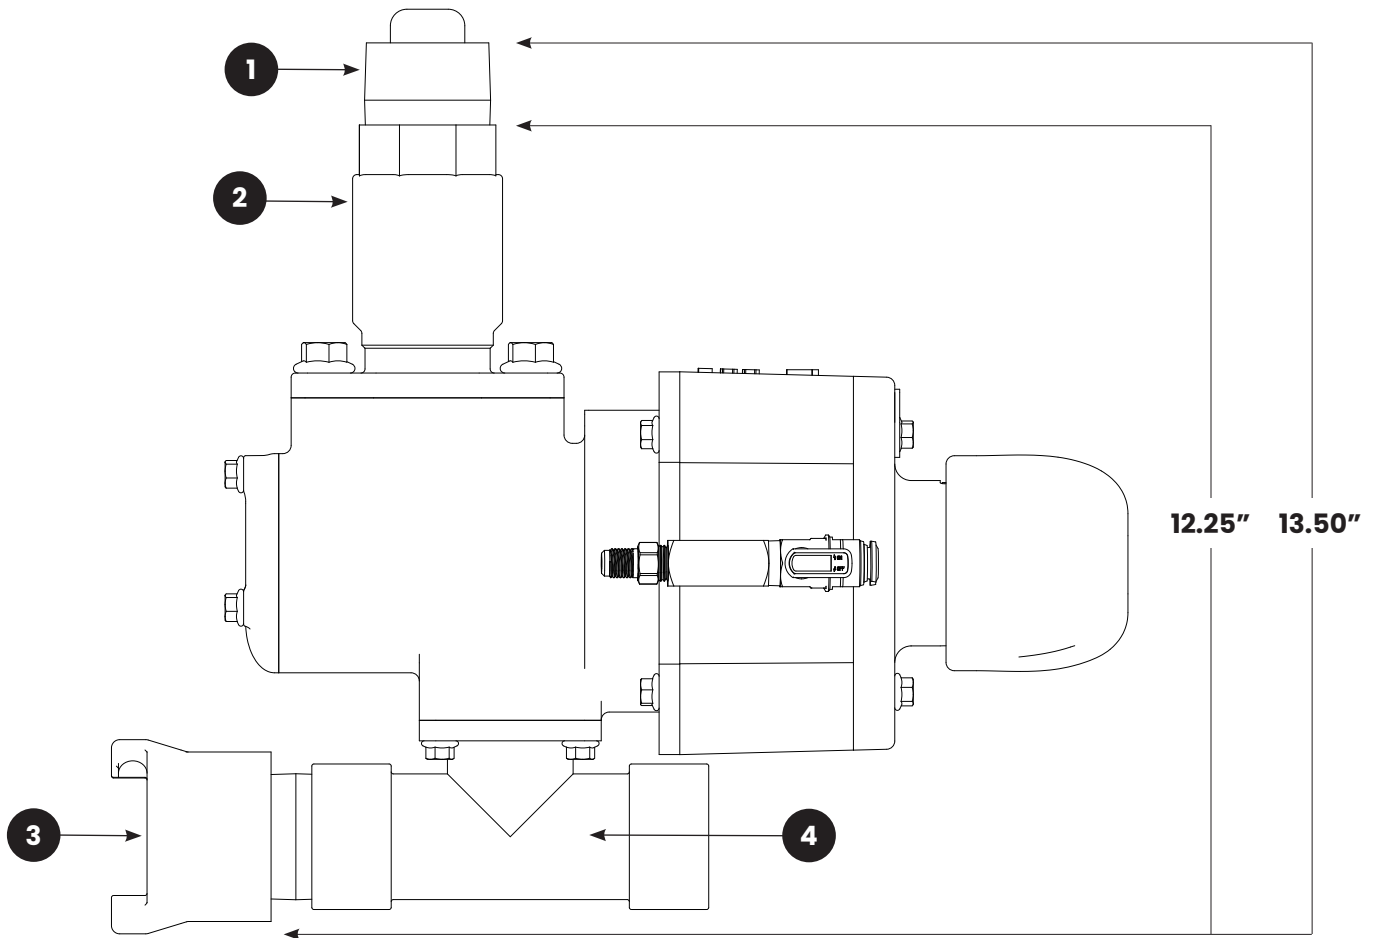

FIGURE 2: (1) 1-1/2" Installation Nipple; (2) Flanged Ball Valve; (3) Hose Coupling (REF) not included; (4) Outlet Tee
2.1.3 | Before removing the existing metering valve, refer to **Figure 2** to determine the ground clearance required for each of the valve options. Besides the height of the PQV-Pro Valve, an additional 1-3/4" is needed to allow for the installation nipple and blast hose coupling. Measure the distance from the bottom of the blast machine to ground level to make sure the blast machine has the clearance to accommodate the valve. **NOTE:** A 1-1/2" x 1-1/4" bushing may be required on the blast machine, depending on the vintage of the machine. The bushing increases the clearance needed to install the valve.
2.3.1 | Apply pipe thread sealant to the male threads of a new 1-1/4" NPT nipple (1-1/2" NPT when using the 1-1/2" outlet pipe) and connect the blast hose coupling to the outlet pipe as shown in **Figure 2**.